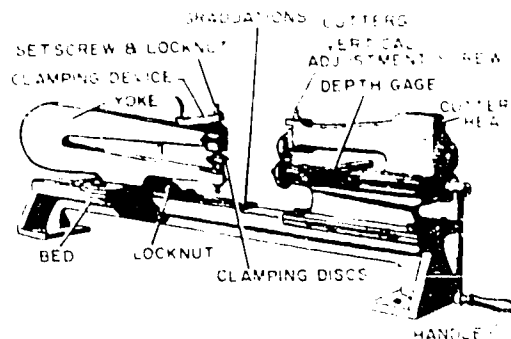

Figure 1-7. Circle shears.
**Circle Shears.** Circle shears, illustrated in figure 1-7, are used to greatest advantage when cutting circular blanks for such items as buckets, cans, and the usual run of cylindrical objects. These shears can also be used for slitting sheets and are equipped with a guide for that purpose. They are best suited for cutting discs from mild steel, copper, and aluminum.